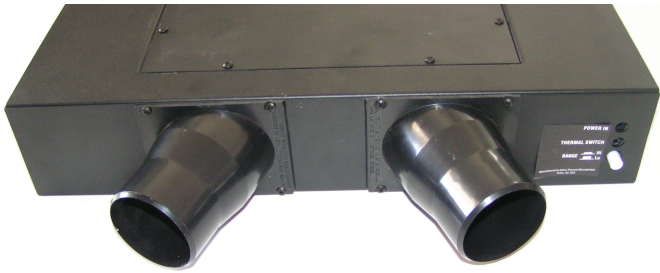

Figure 3
- **If exhausting through the rear panel**, remove the Cool-stack II's front and top panels (4 phillips screws on the rear panel), cover the inside of the front panel as in figure 1, and remove the plastic sheets covering the 2 rear panel exhaust openings. Replace the front and top covers (note that the return bend at the rear of the cover fits *inside* the chassis), and mount the 2 rear panel exhaust ports as shown in figure 3. (Four screws are provided in the accessories box.) Proceed to step 1 of the installation section.